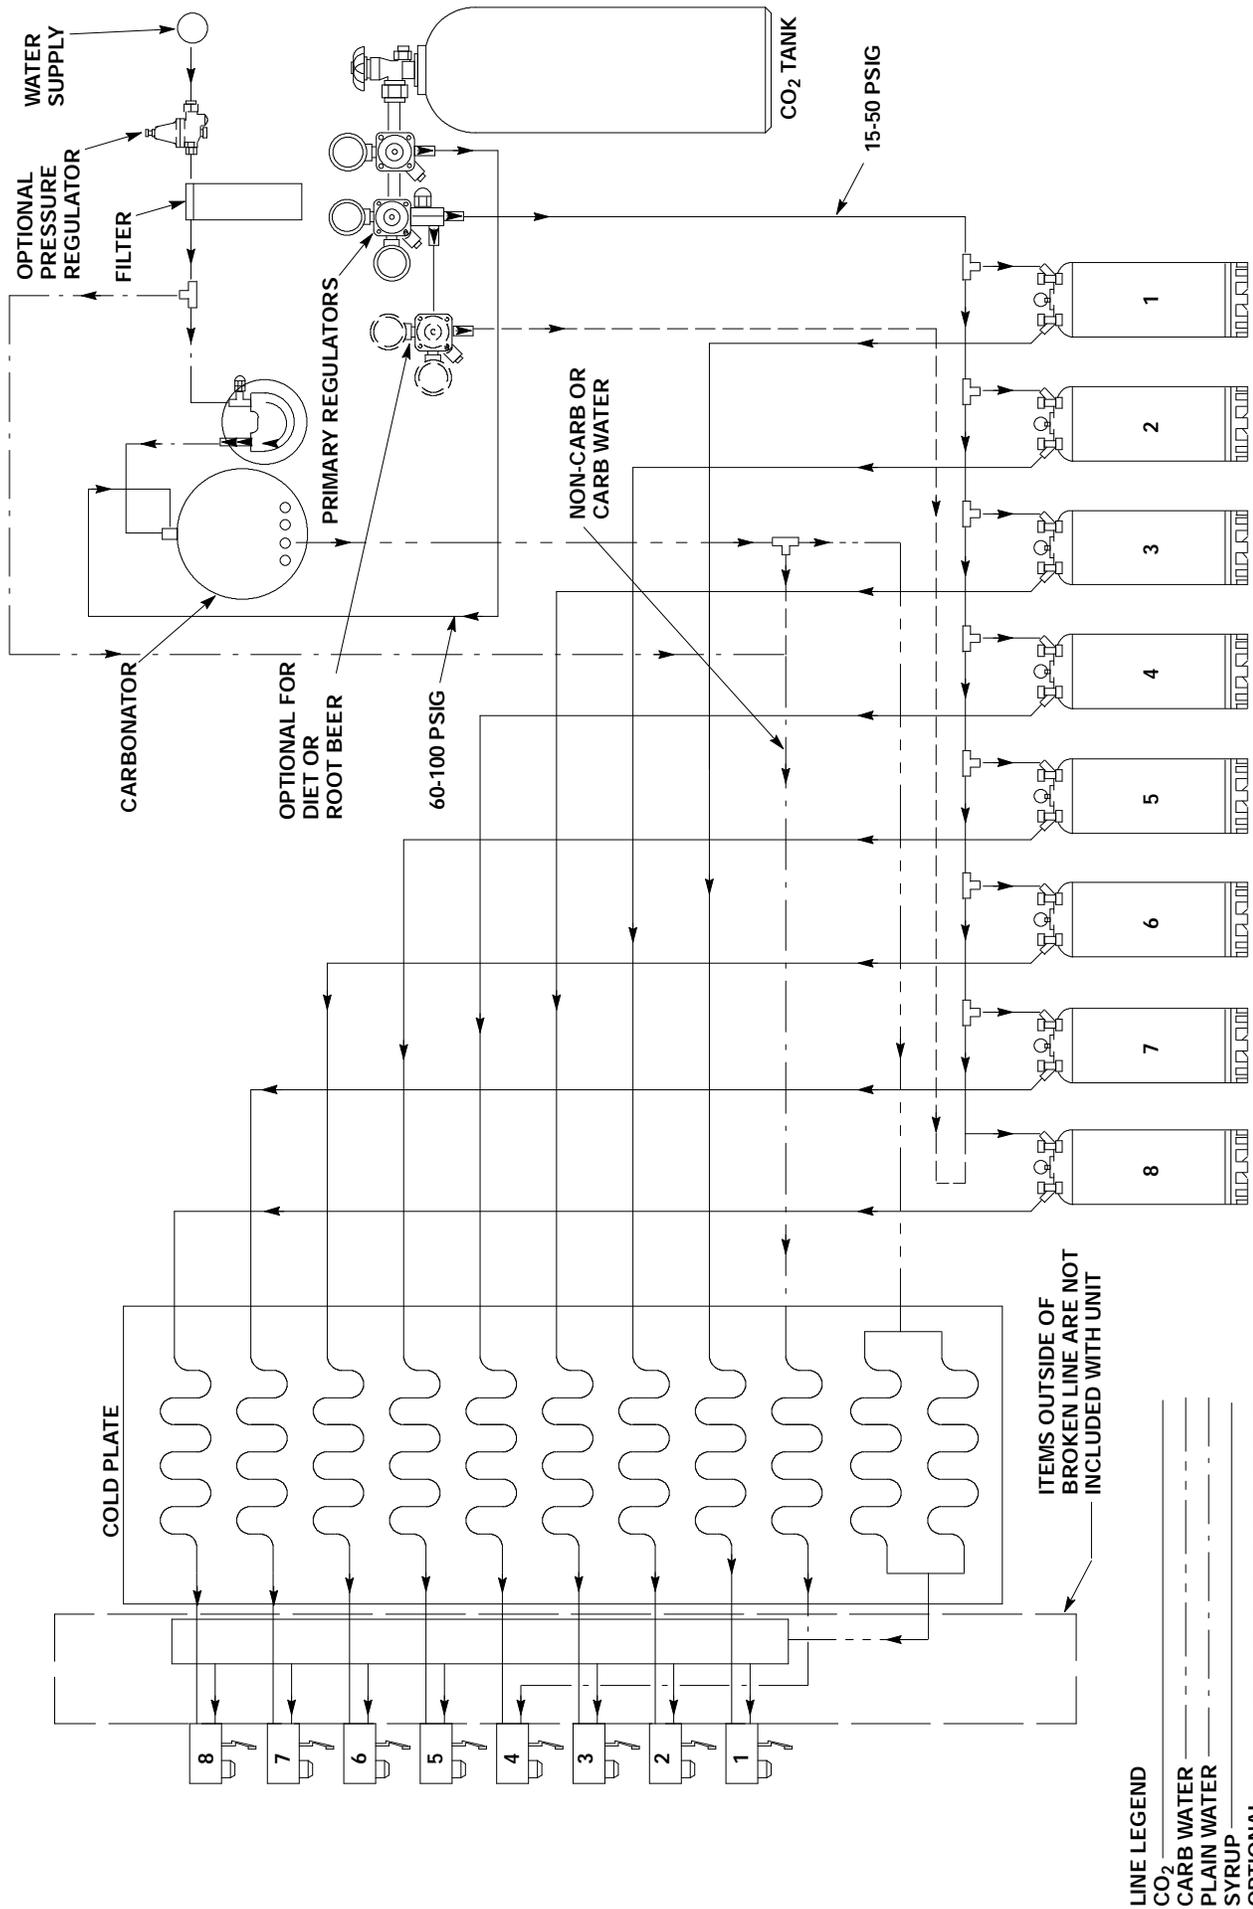
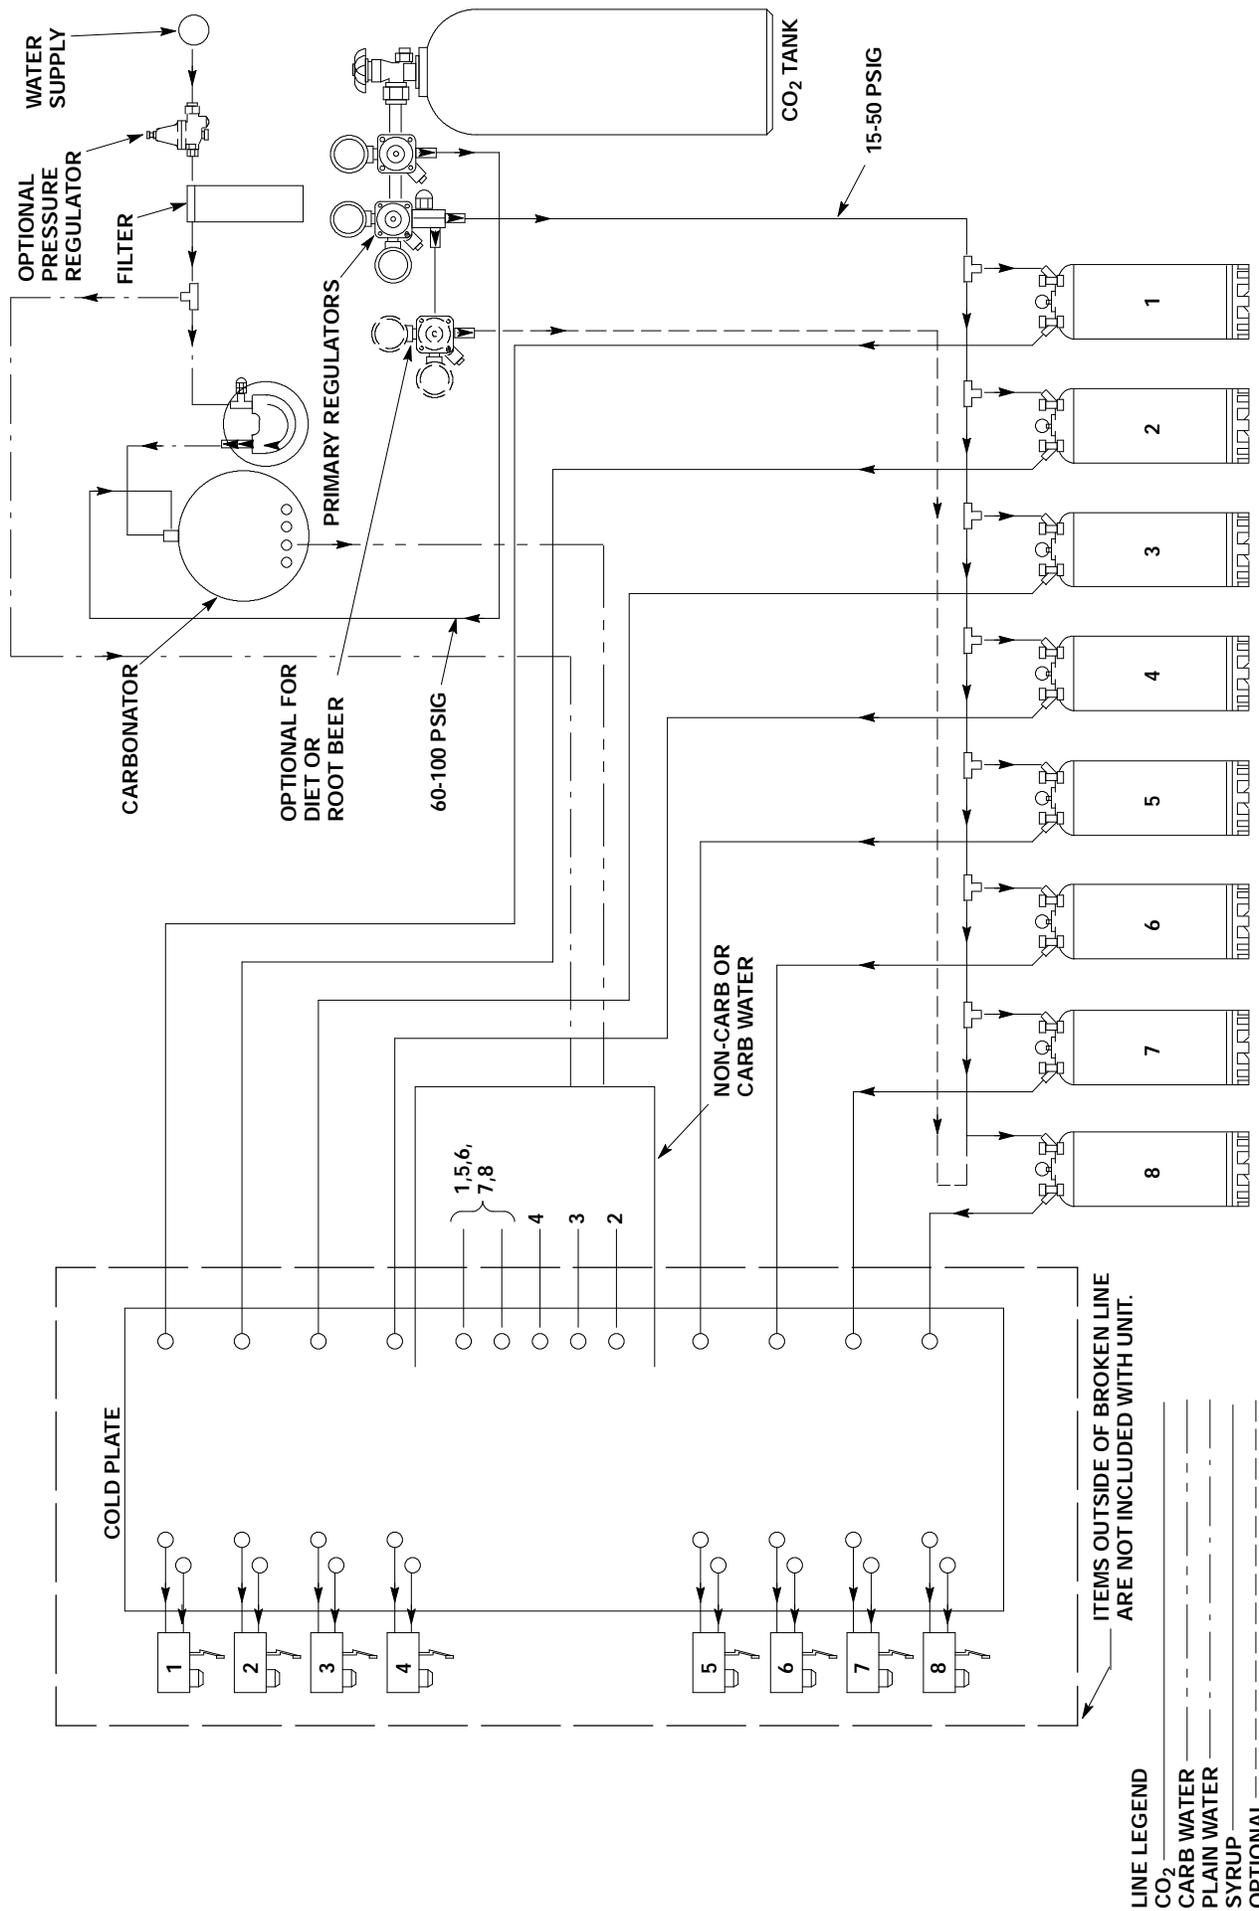

FIGURE 5. BEVERAGE SYSTEM SCHEMATIC B MODELS
FIGURE 6. BEVERAGE SYSTEM SCHEMATIC -BC MODELS
4. Connect the beverage system product lines as indicated in Figure 5 (“B” units) and Figure 6 (“BC” units). This work should be done by a qualified service person. Note that the hoses are marked with numbers (1 through 8) for syrup connection and “CW” for carbonated water connection.